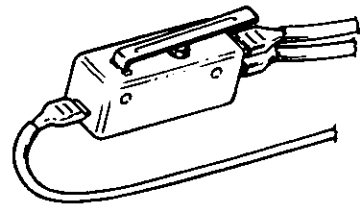

Figure 1-15. Switch, Miniature, Single Pole-Double Throw (MS-SPDT)
6. Miniature Switch (MS-SPDT) — The Model MS-SPDT is a miniature switch which is field mounted in the system control head. The switch is single pole, double throw. All three leads (blue, purple and black) are brought out through a knockout on the right side of the control head, eliminating any need for internal wiring connectors. (See Figure 1-15).